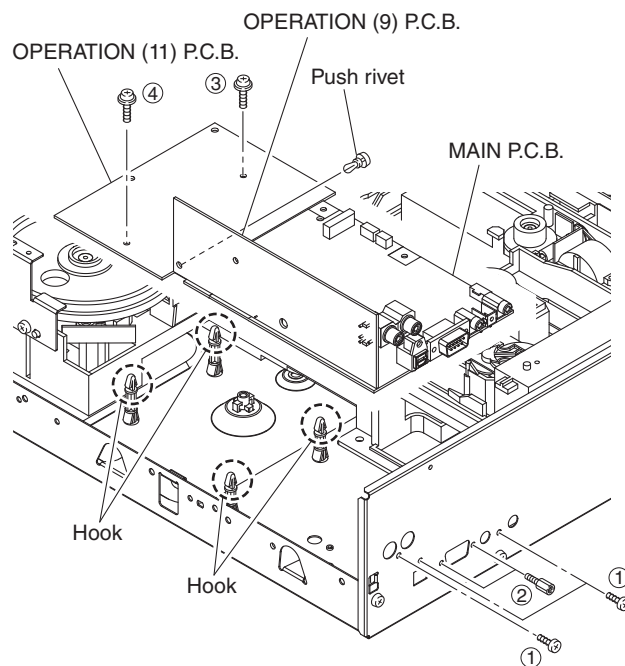

Fig. 1
- c. Remove 3 screws (①) and 2 jack screws (②). (Fig. 1)
- d. Remove push rivet. (Fig. 1)
- e. Remove screw (③) and screw (④). (Fig. 1)
- f. Release 4 hooks. (Fig. 1)